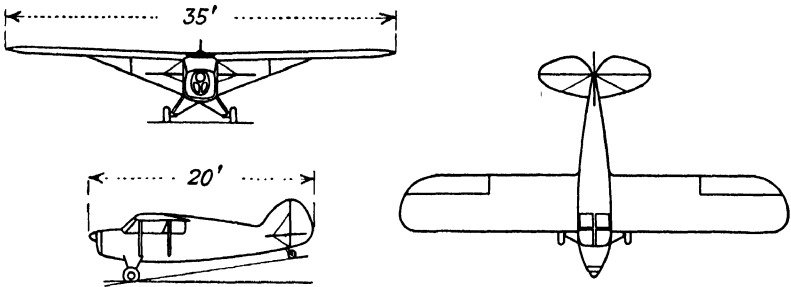

Fig. 165.—The Akron Funk B two-place monoplane. (Courtesy of Aviation.)
1. The monoplane in Fig. 165 is the two-place Akron Funk B, whose gross weight is 1,350 lb., and whose pay load